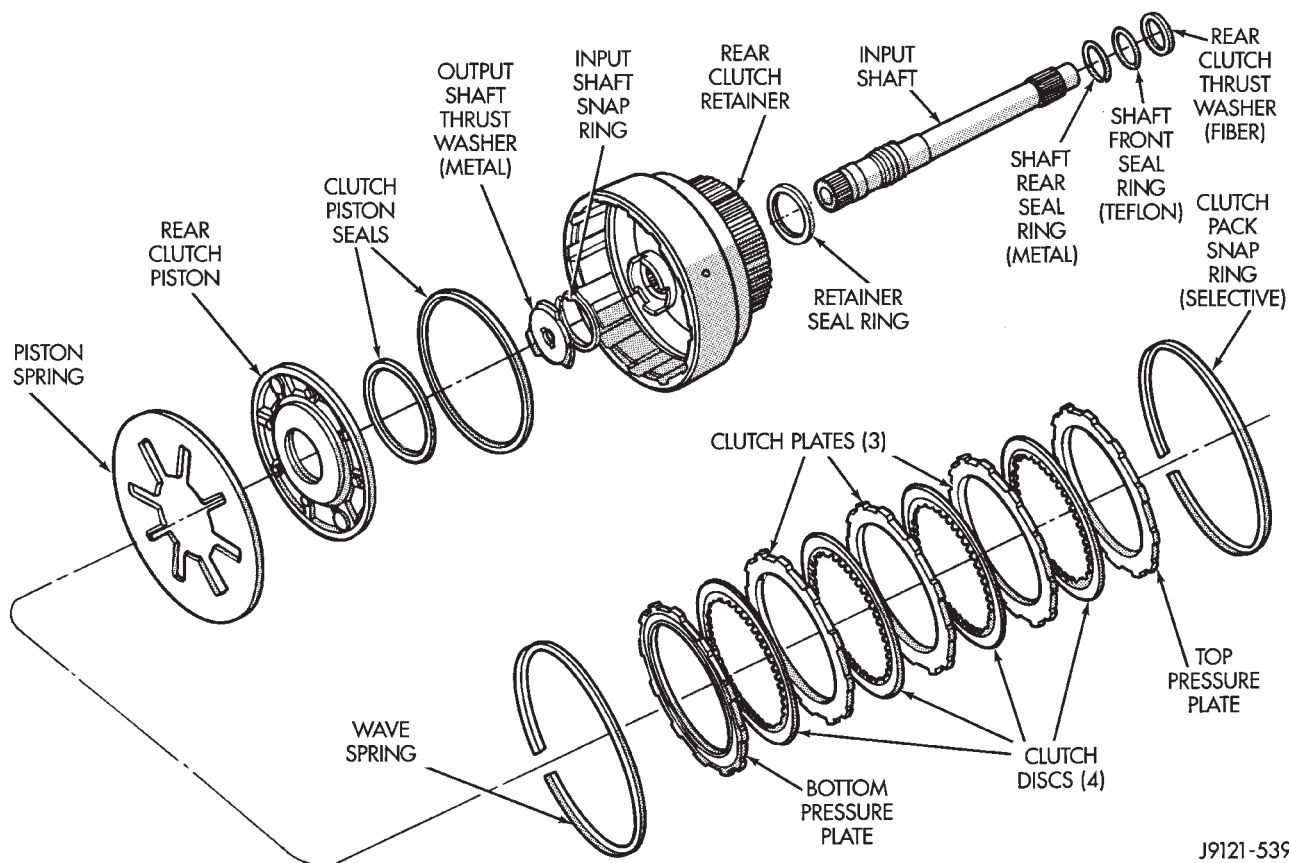

Fig. 66 Rear Clutch Components (32RH)
- 4 discs and 3 plates are required in 32RH (Fig. 66).